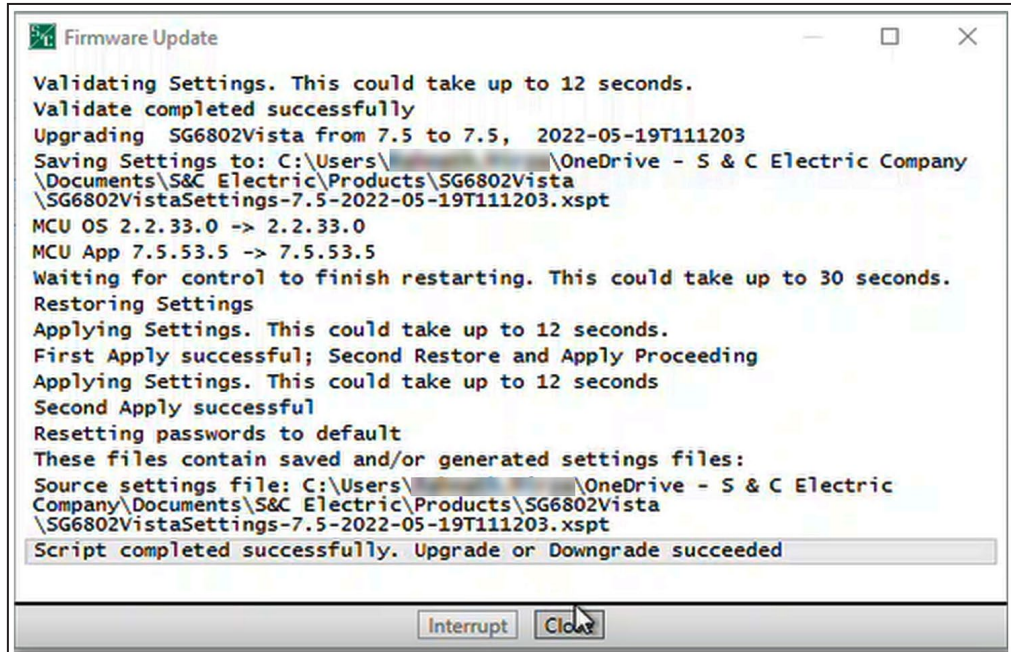

Figure 35. The Script completed successfully notice.
STEP 13. When “Script completed successfully” is indicated in the Firmware Update dialog box, click on the **Close** button. See Figure 35.